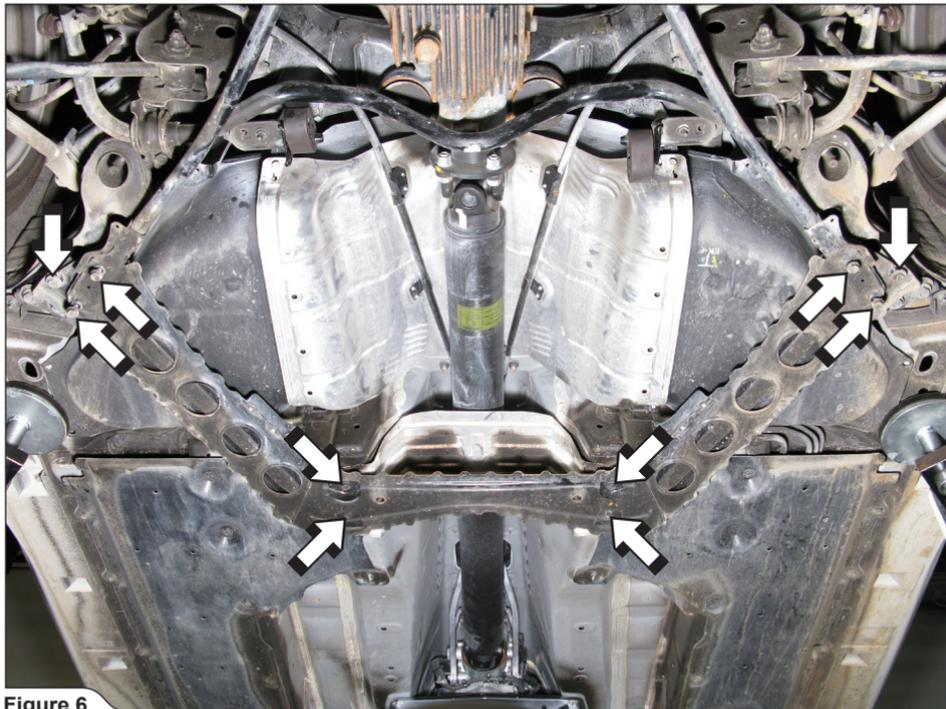

Figure 6
6. **For Evolution only:** for easier assembly of the Evolution exhaust system, unscrew the marked bolts and shift the chassis reinforcement out of the way (**Figure 6**).